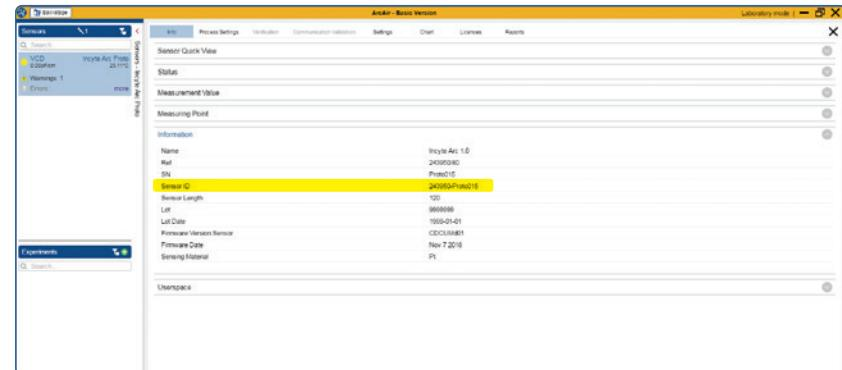

Figure 31: Identify the sensor ID
- 2) Check the sensor ID (figure 31).